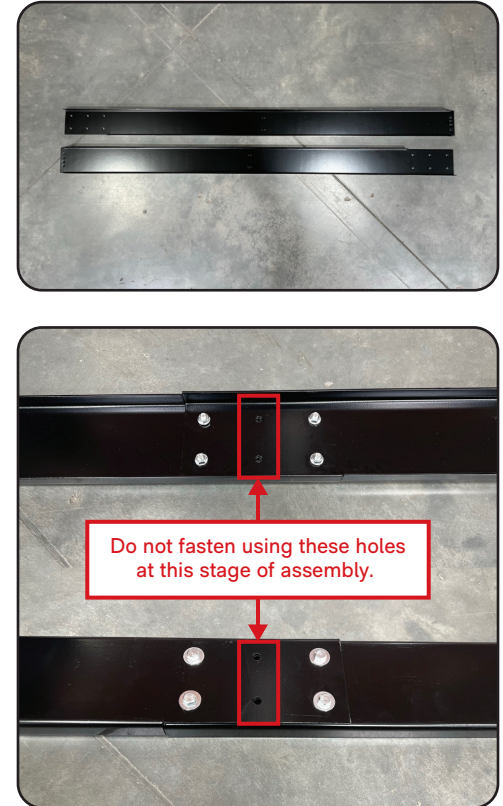

fig 1.1
2. Using the 10mm socket and wrench plus 4 bolts, 4 washers and 4 nuts, fasten the two riveted side rails together using the outer holes only, as shown. Place the washer on the bolt before inserting it into the hole on the side rail. (fig 1.1). NOTE: The center holes will be used to attach the center support later in the assembly process.